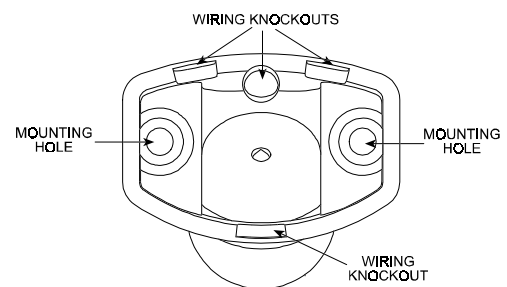

Figure 8. Bracket Base as Viewed from the Rear
F. Break the selected wiring knockouts in the bracket (Figure 8).